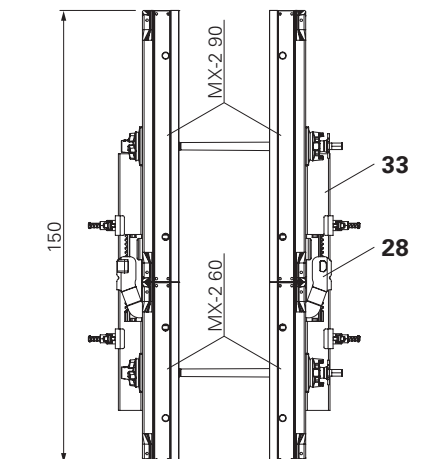
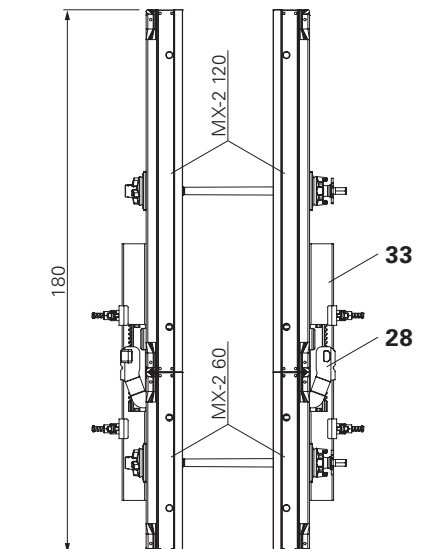
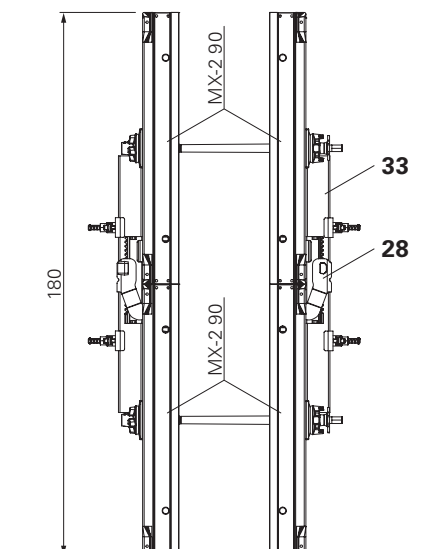
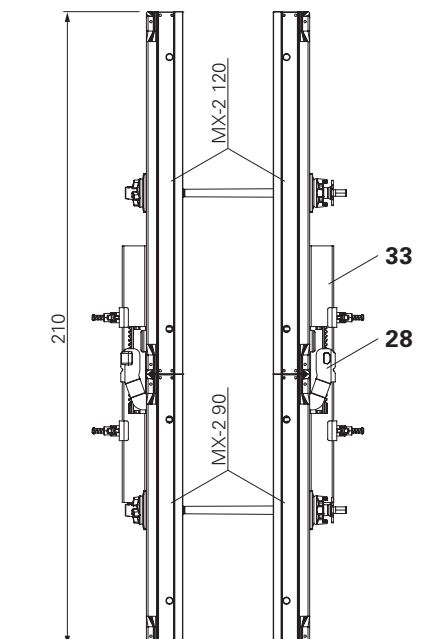

Fig. A16.04
Fig. A16.05
Fig. A16.06
Fig. A16.07
- Fit 2x Alignment Coupler BFD (**28**) and 2x Compensation Waler-4 MAR 85 (**33**) to Downward Extension Panel MX-2 60 and MX-2 90 as a panel connection. (Fig. A16.04 – Fig. A16.07)
(Fig. A16.04 + Fig. A16.05)
(Fig. A16.06 + Fig. A16.07)